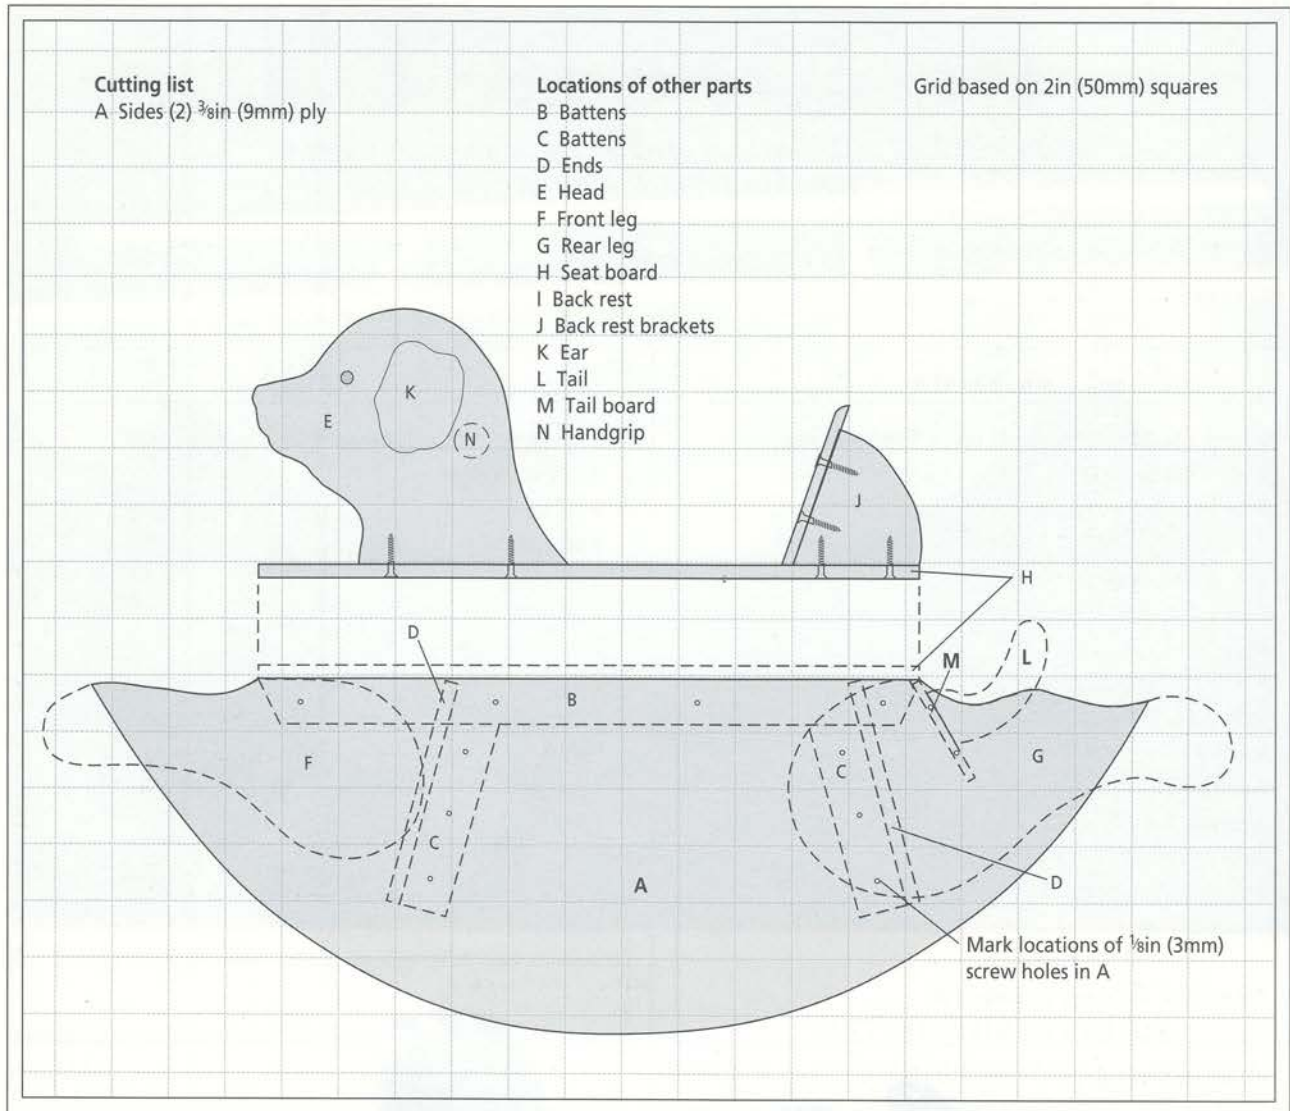

Fig 20.1 Cutting list for A. The locations of the other parts are shown.
Enlarge the parts from Figs 20.1–20.4 and transfer the shapes to the correct thicknesses of ply. Mark the positions of all drill holes.
the positions for B and C on the inner surfaces of A as shown in Fig 20.1. An example of marking out B and C on the ply can be seen in Fig 18.6 of the Rocking Dolphin project (see page 139).
Glue and screw (through the previously drilled holes) the tail assembly (L and M) in position between the A parts as shown in Fig 20.1.
Drill and countersink the two screw holes in F and G, and round off the edges of F and G to a smooth finish. Glue and screw F and G to the rocker sides (A) in the positions shown in Fig 20.1. The contoured upper edges of F and G align with the shaped top edges of A.